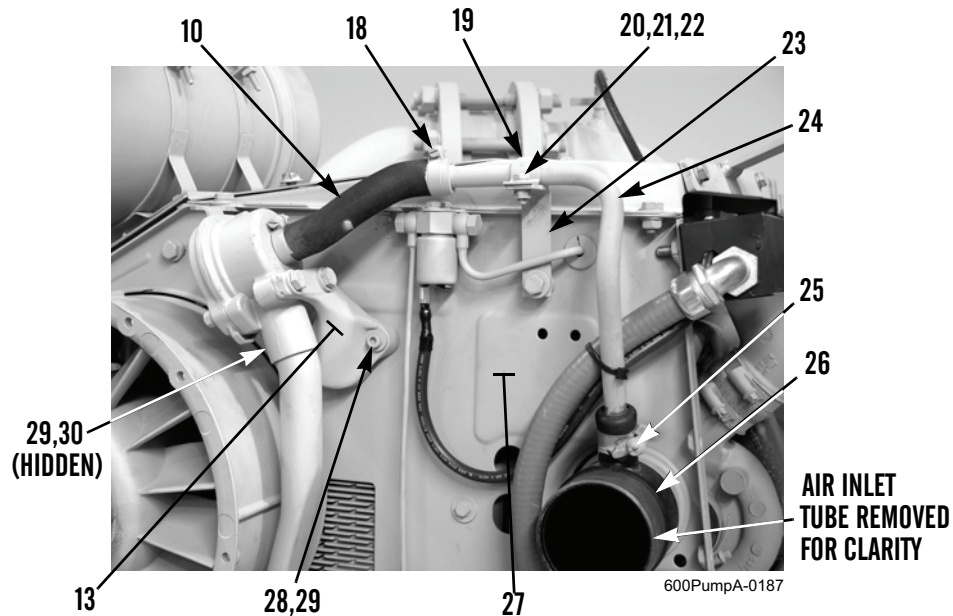

Figure 3. Crankcase Breather and Lines.
9. Remove nut (Figure 3, Item 20), capscrew (Figure 3, Item 21), two washers (Figure 3, Item 22), and clamp (Figure 3, Item 19) and release breather line (Figure 3, Item 24) from bracket (Figure 3, Item 23).
10. Loosen clamp (Figure 3, Item 25) and remove breather line (Figure 3, Item 24) from turbocharger air inlet (Figure 3, Item 26).
11. Loosen clamp (Figure 3, Item 18) and separate tube (Figure 3, Item 10) from breather line (Figure 3, Item 24).
12. If damaged, remove torx head capscrew (Figure 3, Item 28), capscrew (Figure 3, Item 30), two washers (Figure 3, Item 29), and bracket (Figure 3, Item 13) from front air duct wall (Figure 3, Item 27).
1. If removed, install bracket (Figure 3, Item 13) on front air duct wall (Figure 3, Item 27) with two washers (Figure 3, Item 29), capscrew (Figure 3, Item 30), and torx head capscrew (Figure 3, Item 28).
2. Assemble tube (Figure 3, Item 10), clamp (Figure 3, Item 18), and breather line (Figure 3, Item 24). Do NOT fully tighten clamp.
3. Install breather line (Figure 3, Item 24) on turbocharger air inlet (Figure 3, Item 26) and partially tighten clamp (Figure 3, Item 25).
4. Secure breather line (Figure 3, Item 24) to bracket (Figure 3, Item 23) with clamp (Figure 3, Item 19), two washers (Figure 3, Item 22), capscrew (Figure 3, Item 21), and nut (Figure 3, Item 20). Do NOT fully tighten nut.